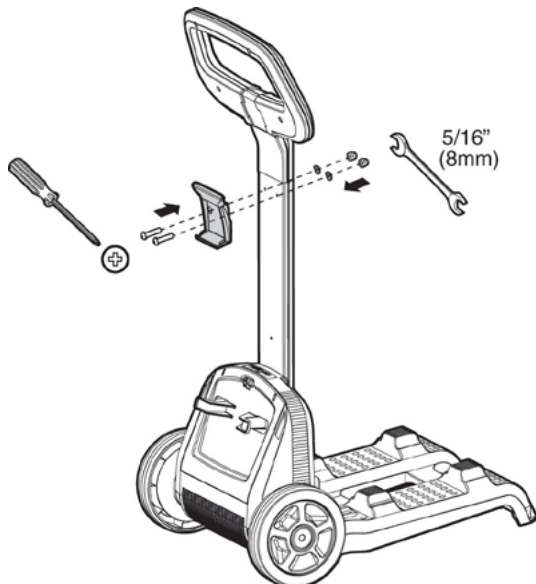

Figure 13
3. Using the two longer Phillips-head screws, two washers and two 8 mm (5/16") nuts provided with the caddy, install the power supply hook to the caddy's handle support. See **Figure 13**.